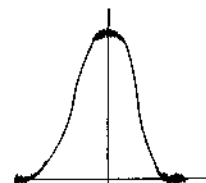

Fig. 4
(2)	AM signal generator 1400kHz 400Hz 30% modulated, 50dB at input AC Voltmeter
(3)							Repeat (1) and (2)
4. In item 1, set the capacitance of the variable capacitor to minimum and adjust red and blue cores of T253 so that the waveform is as shown in Fig. 4. As T253 contains a 455kHz ceramic filter, sometimes the center of the marker will not correspond to that of the waveform.